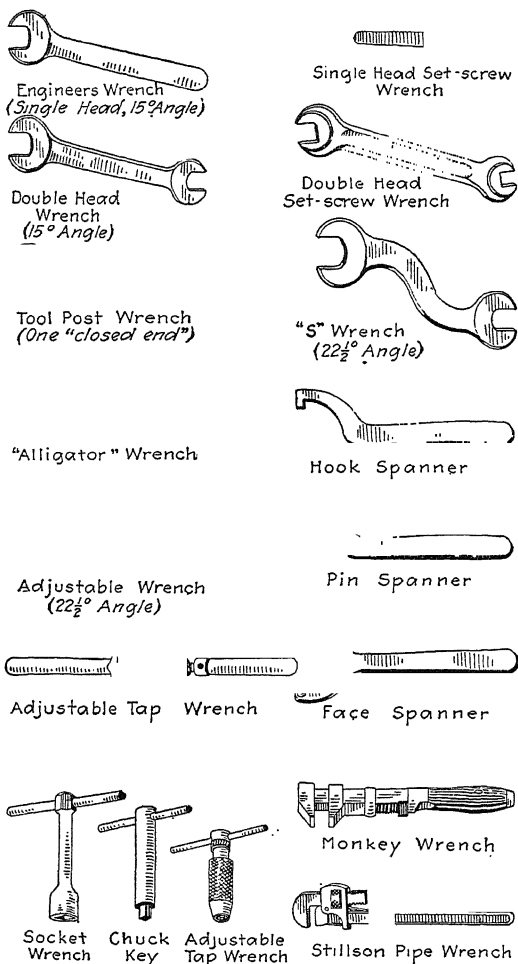

FIG. 211.—Several types of wrenches.
**237. Wrenches.**—Wrenches are made in many different forms for turning (twisting) bolts, nuts, pipes, taps, etc. Any form of wrench consists of a handle (or handles) with jaws, lugs, or an opening or socket to fit the object to be turned. They are named (1) from their shape; as “S” wrench, angle wrench, etc. (2) From the object on which they are used; as tap wrench, pipe wrench, etc. (3) From their construction; as spanner wrench, ratchet wrench, etc. Several of the wrenches commonly used in machine work are illustrated in Fig. 211.